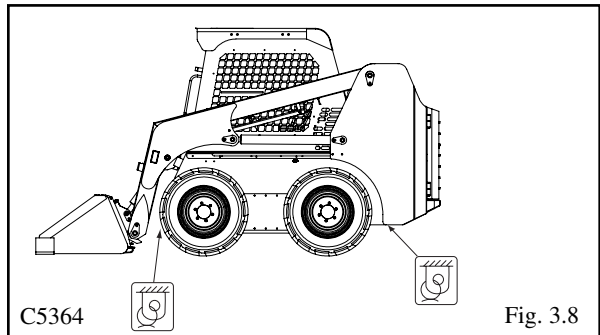

Fig. 3.8
3. Attach a properly rated chain, cable or towing strap to the towing point provided (Fig. 3.8).